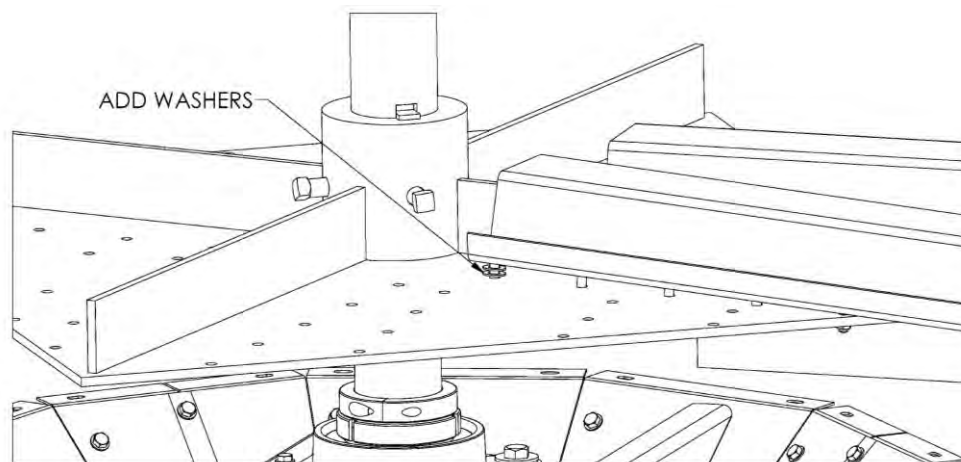

Fig. 5 – Using shims to position scraper blades
4. **Shim main arms so scraper blades are as close to grain floor as possible without touching it.** Use washers as shims between each main arm and drive hub. See Fig. 5. Shim washers should go only on bolts closest to center. If scraper blade needs to be higher on outside, entire drive hub should be jacked up higher. Run rotor a full revolution and make sure scraper blades do not touch grain floor. Adjust white poly wheels so they barely touch grain floor.